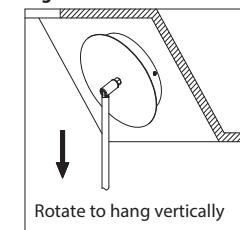

Fig. 3 Switch
- Remove the canopy screw (C) from the fixture, and remove the ceiling plate.
- Set color temperature at this stage. The fixture can switch between three color temperatures (3000k, 3500k, 4000k), which can be adjusted to your preference using the 3CCT switches (Fig. 3) mounted on the canopy. Make sure both switches are set to the same color temperature setting.
- Drill holes in the ceiling aligned with the outer keyholes in the ceiling plate. Install the plastic anchors (E) into the ceiling.
- Secure the ceiling plate to the junction box using the original junction box screws. Fasten the ceiling plate to the ceiling using anchor screws (D).
WIRING FIXTURE (Fig. 1, Fig. 2, Fig. 3)
- Note: Due to limited space within the canopy, shorten the wires as necessary to make the installation easier. Make sure to identify and label all the wiring properly (Fig. 3) before any trimming/shortening.
- Connect the driver's output wires, fixture wire and 3CCT wire as shown in Fig. 3. Connect the driver's input wires to junction box wires as shown in Fig. 2. Ensure wire connectors are secure. Connect the fixture's ground wire to the ground in the junction box; this will be either a green wire or a bare copper wire. After driver is wired to house wires, tuck wires carefully inside the junction box.
(OPTIONAL) DIMMER WIRING (Fig. 3)